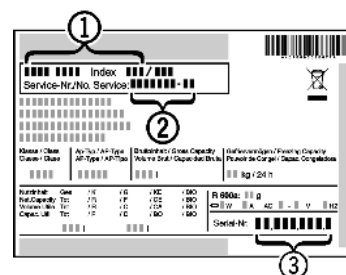

Fig. 53
- ▶ Read off the appliance name *Fig. 53 (1)*, service no. *Fig. 53 (2)* and serial no. *Fig. 53 (3)* from the model plate. The model plate can be found on the inside of the appliance on the left.